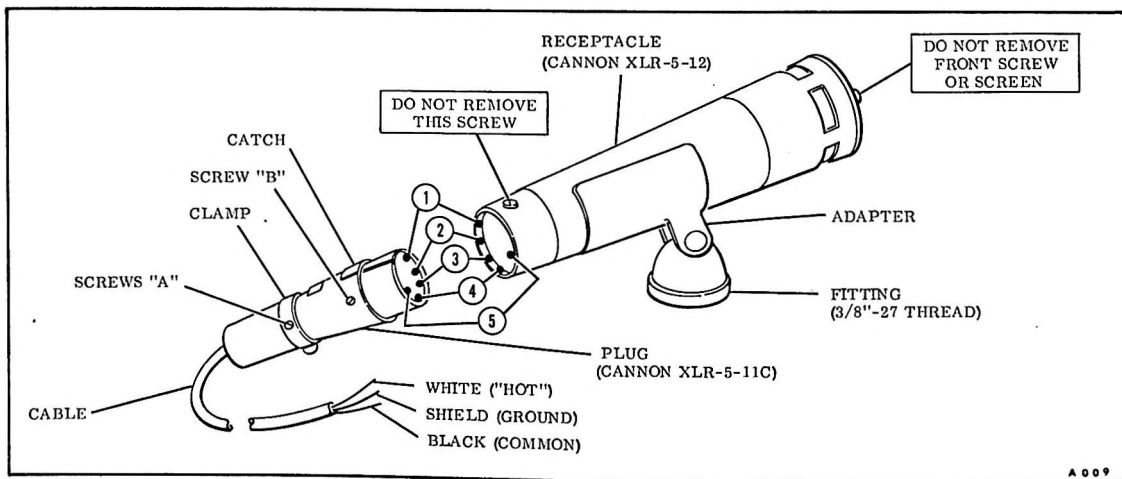

Figure 1-5. Microphone Impedance Changing
1.32 MICROPHONES (Figure 1-5)
(See Figure 1-5)